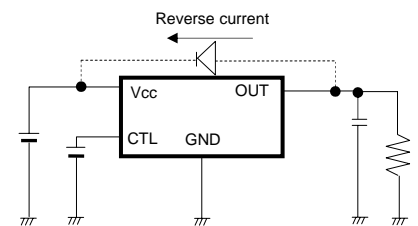

Fig. 36: Bypass diode
2) This IC is bipolar IC that has a P-board (substrate) and P+ isolation layer between each device, as shown in Fig.36. A P-N junction is formed between this P-layer and the N-layer of each device, and the P-N junction operates as a parasitic diode when the electric potential relationship is GND > Terminal A, GND > Terminal B, while it operates as a parasitic transistor when the electric potential relationship is Terminal B > GND > Terminal A. Parasitic devices are structurally inevitable in the IC. The operation of parasitic devices induces mutual interference between circuits, causing malfunctions and eventually the destruction of the IC. It is necessary to be careful not to use the IC in ways that would cause parasitic elements to operate. For example, applying a voltage that is lower than the GND (P-board) to the input terminal.